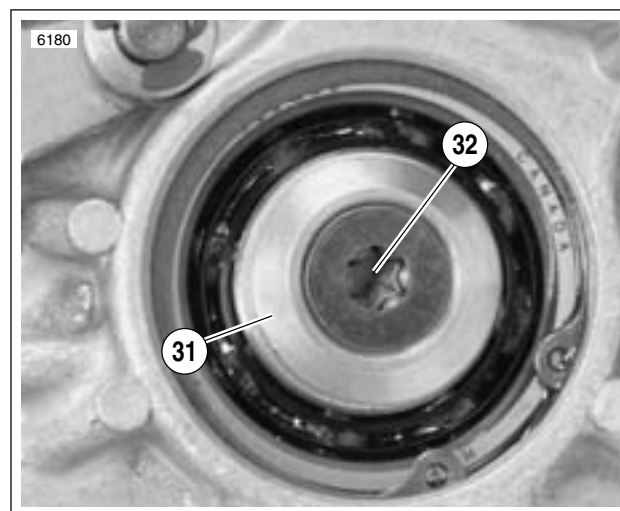

Figure 6-46.
19. See Figure 6-46. At outside of access door, position retention collar (31) next to end of countershaft with beveled side facing outward. Apply a few drops of LOCTITE THREADLOCKER 243 (blue) to the threads of TORX screw (32). Insert TORX screw (32) through retention collar and thread into end of shaft. Place transmission in gear and tighten TORX screw to 13-17 ft-lbs (18-23 Nm).